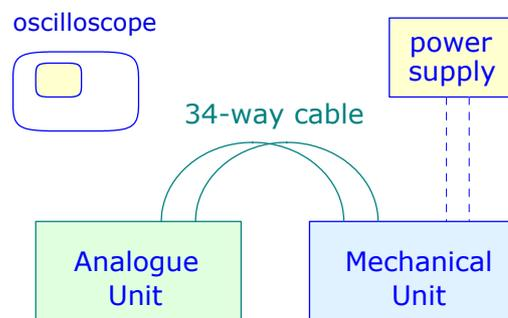

Fig. 1 Principal system interconnection of the 33-002
1. The 33-002 Servo Fundamentals Trainer shown in Fig. 1, which consists of 2 Units: